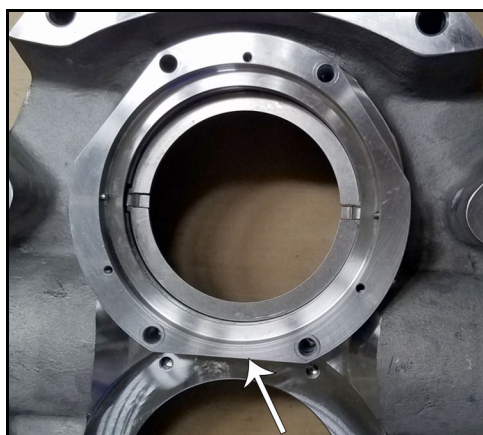

Figure 114 - Seal housing in place
7. Figure 114 shows the 180-U3 seal housing in place. Note the orientation of the flat (arrow), facing the center of the pump body.